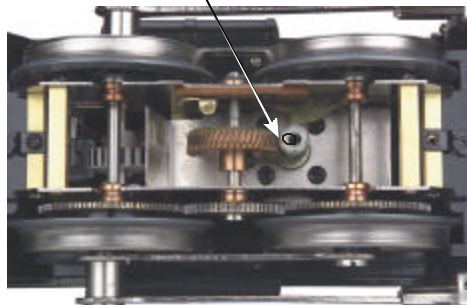

*Figure 7: Removing the body from the chassis*
1. To access the drive train, remove the cab from the chassis by loosening the (2) screws located on either end of the motor chassis as seen in Figure 7. Once loosened, remove the motor chassis cover plate.